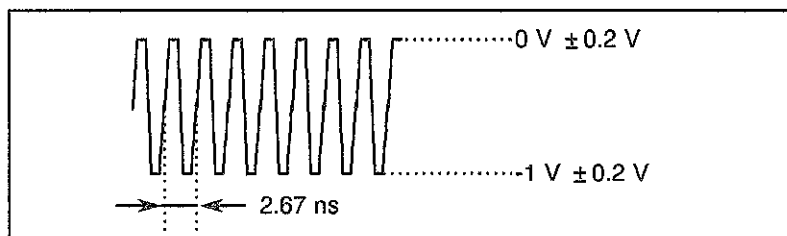

Figure 8-4 1/32 CLK TRIGGER Output Waveform (f = 12000 MHz)
- (6) Normal when the waveform is a rectangular wave as shown in Figure 8-4.